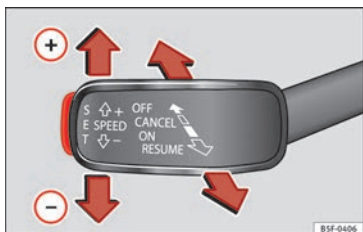

Fig. 48 On the left of the steering column: third lever to operate the CCS.
- Switching on the CCS: move the third lever to **ON** »» Fig. 48. The system switches on but it does not control the speed as no speed has been programmed.
- Activating the CCS: press the **SET** »» Fig. 48 button. It memorises and maintains the current speed.
- Temporarily switching off the CCS: move the lever to **CANCEL** »» Fig. 48 and release it or press the brake pedal. The cruise control system is switched off temporarily.
- Reactivating the CCS: move the lever to **RESUME** »» Fig. 48 and release it. The memorised speed is saved and controlled again.
- Switching off the CCS: move the third lever to position **OFF** »» Fig. 48. The system is disconnected and the memorised speed is deleted.